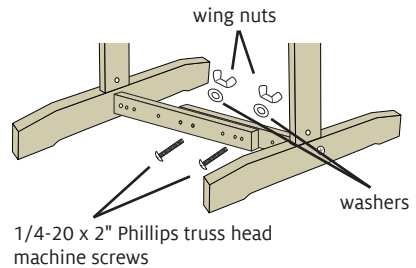

FIGURE 7: SECURE CROSS BRACES
- Keeping the left cross brace in front of the right cross brace, insert 1/4-20 x 2" Phillips truss head machine screws through the cross braces. On the back of the cross braces, place a 1/4" washer on the screw and secure with a wing nut (Figure 7).